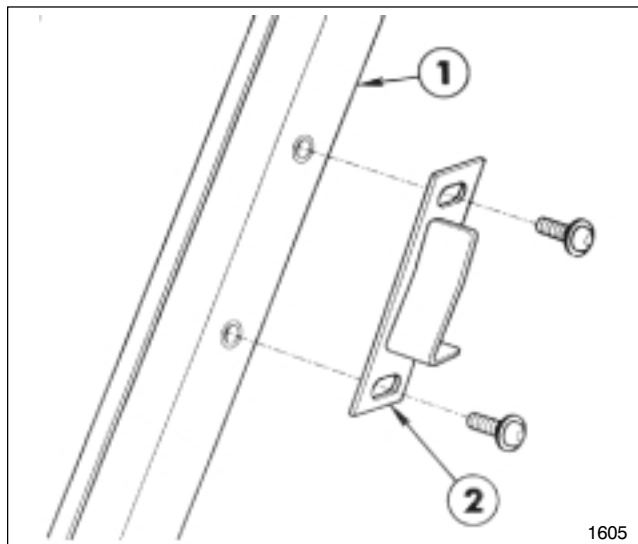

FIG. 10
31. Remove the (4) 1/4" x 3/4" flange hd. bolts securing the (2) Magnet Clamps and (2) Door Magnets to the ROPS. See FIG. 10.